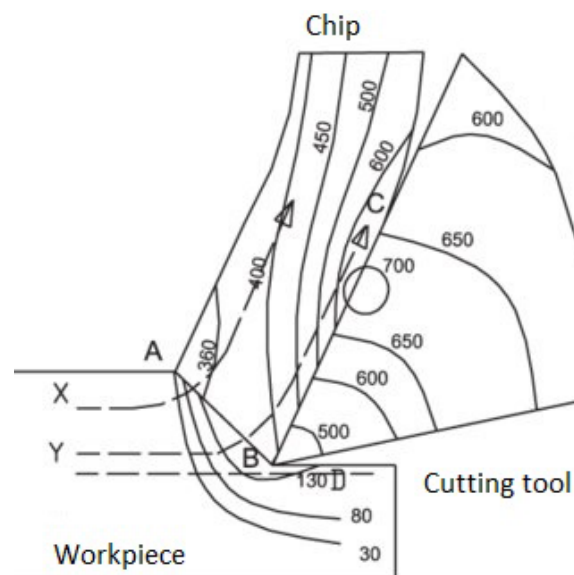

Figure 2 (a)
*[Sila pastikan bahawa kertas peperiksaan ini mengandungi TUJUH (7) muka surat yang bercetak sebelum anda memulakan peperiksaan ini].*
**Instructions** : Answer **ALL FIVE (5)** questions.
**Arahan** : Jawab **KESEMUA LIMA (5)** soalan.]
1. [a] State any FIVE (5) solid state welding techniques and any 5 (FIVE) fusion welding techniques.
- [c] One of the strategies for weight reduction in automotive part manufacturing is via tailor welded blank (TWB). Describe any TWO (2) advantages offered by the tailor welded blank for weight reduction.
2. [a] Figure 2 (a) shown is the typical temperature distribution in the cutting zone during machining process. By redrawing the figure.